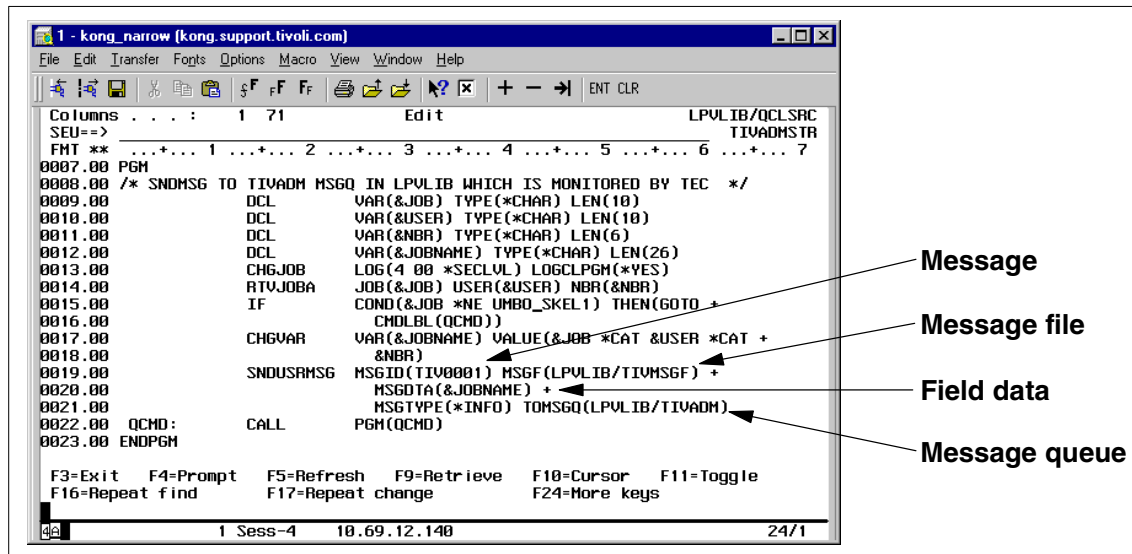

Figure 225. Editing the program that retrieves the job attributes
7. Next, we write and compile a program that retrieves the job's attributes (job name, user, and number) storing them as CL variables. It then checks to see if the job name is UMBO_SKEL1. If so, we send our TIV0001 message to our TIVADM message queue. The qualified job name (&JOBNAME) is included as the field data value. QCMD is then called to process the job as shown in Figure 225 on page 377.